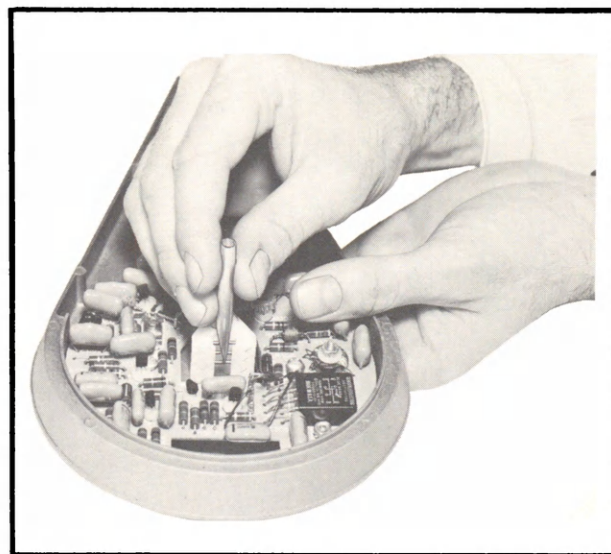

Figure 5-12. Inserting Brush Tool
2. Slip the brush spreading tool in the hole between the two rows of brushes, moving them apart with the chisel-shaped portion of the tool (Figure 5-12).